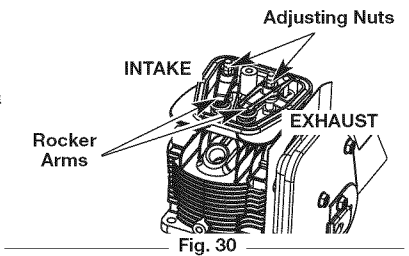

Fig. 30
- The recommended clearance for both intake and exhaust is **.003 – .006 in. (.076 – 0.152 mm)**. Use a standard automotive .005 in. (0.127 mm) feeler gauge. The feeler gauge should slide between the rocker arm and valve stem with a slight amount of resistance, without binding (Fig. 30 and 31).